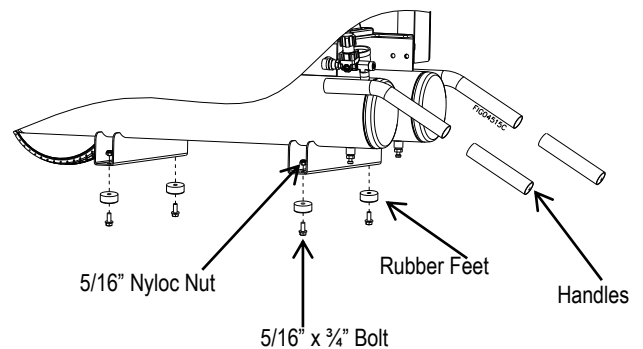

Figure 4
1. Attach handles and rubber feet as shown. (Figure 4)